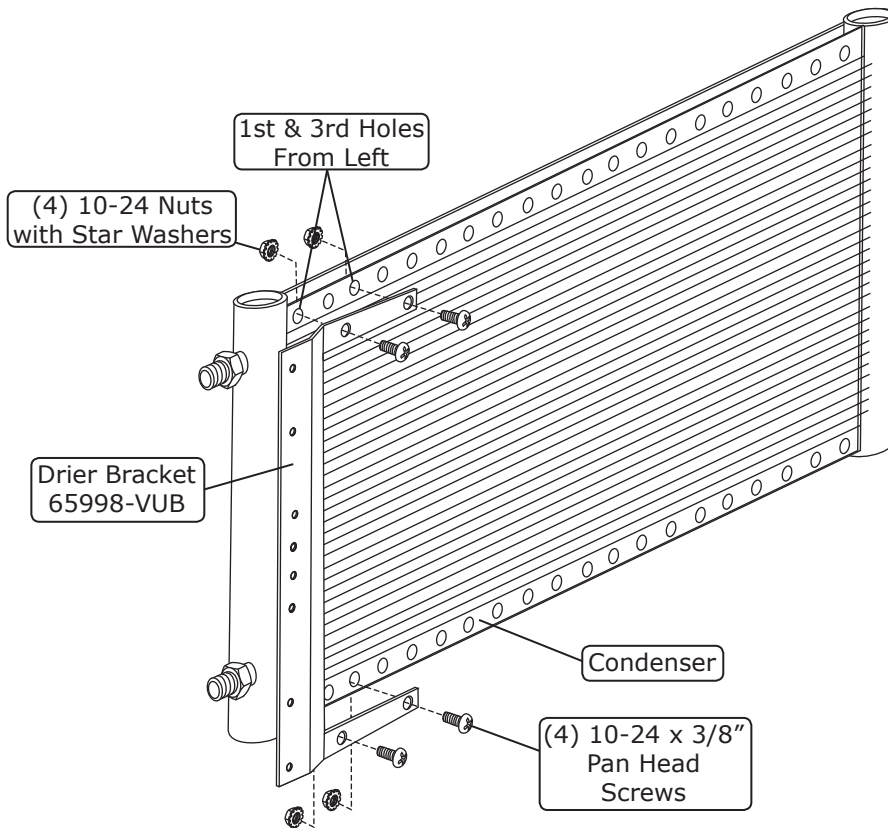

Figure 1
1. On a workbench, install the drier mounting bracket onto the condenser using (4) 10-24 x 3/8" pan head screws and (4) 10-24 nuts with star washers (See Figures 1 & 1a, below). **NOTE: The bracket mounts through the 1st and 3rd holes from the left side of the condenser.**